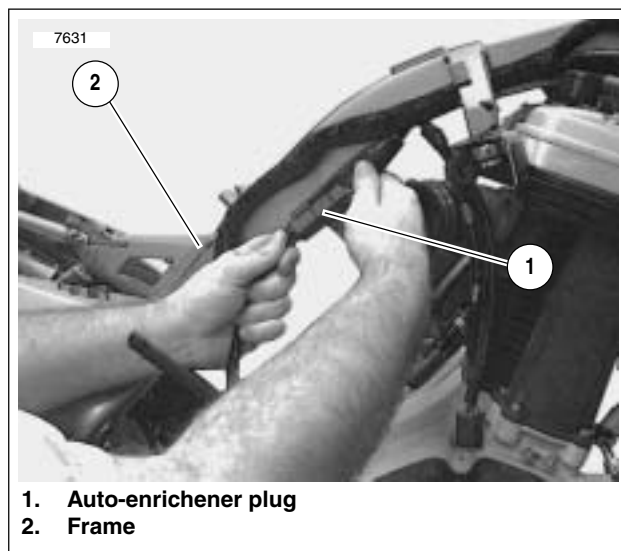

Figure 3-34. Auto Enrichener Plug
23. See Figure 3-34. Connect auto-enrichener plug.